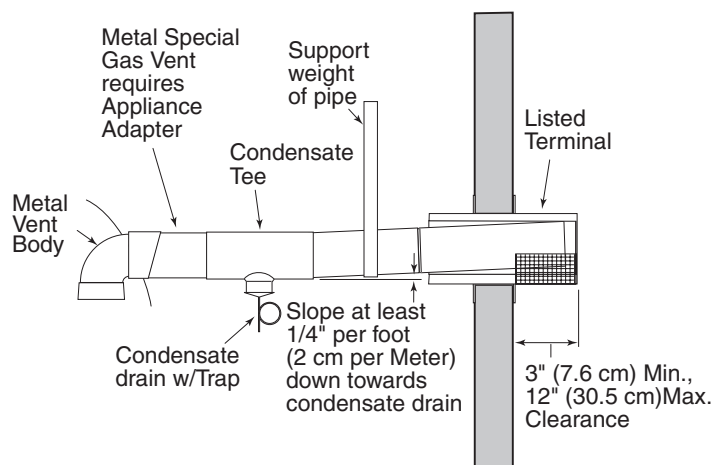

FIGURE 14: Typical Special Gas Vent Pipe Installation (Horizontal-Positive Pressure)
- at least 3" and at most 12" out from the wall (see Figure 14), following the vent manufacturer’s instructions.